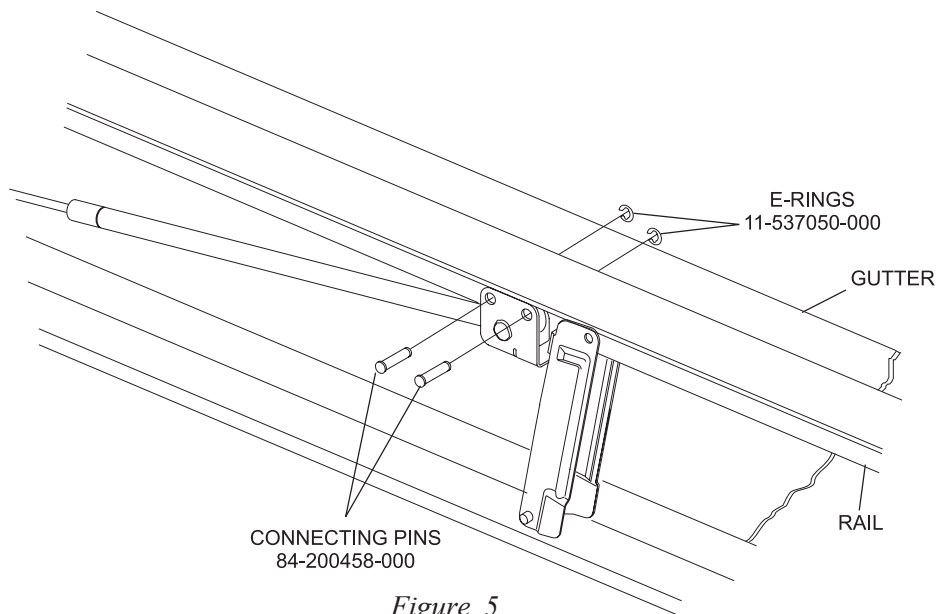

Figure 5
10. Attach the rail mounting bracket and gas spring assembly to the bumper rail with (2) connecting pins, 84-200458-004, and (2) E-Rings, 11-537050-000. The E-Rings should be on the gutter side of the rail, not the lane side. Refer to *Figure 5*.